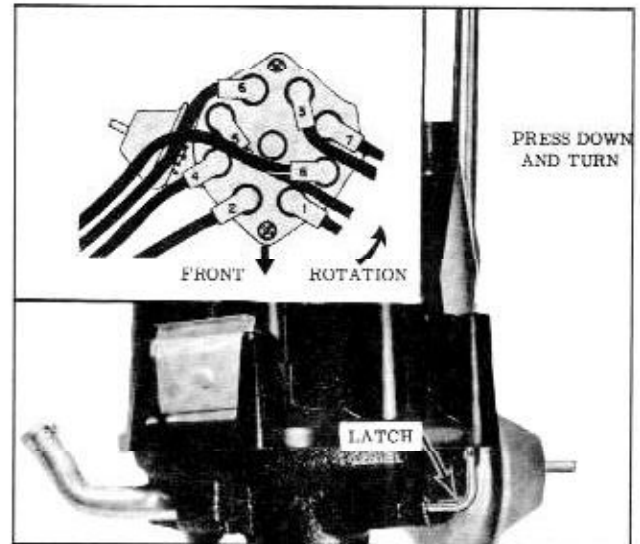

Fig. 13-59 Removing Distributor Cap
2. Remove distributor cap as shown in Fig. 13-59.